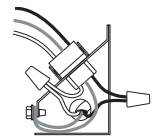

Figure 14 — Proper Wiring
1. Remove wiring cover. Using proper wire connectors, wire the fan as shown in Figure 14.